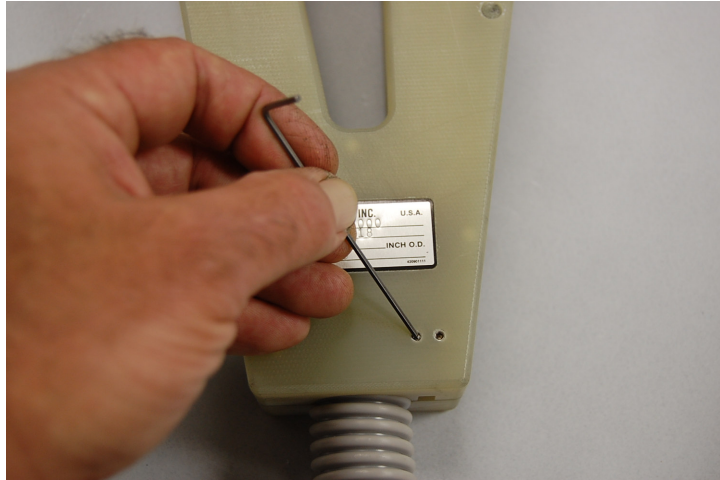

Fig. 14
7.4 Spare electrode set screws are located in the weld head housing near the cable attachment. See fig. 14.